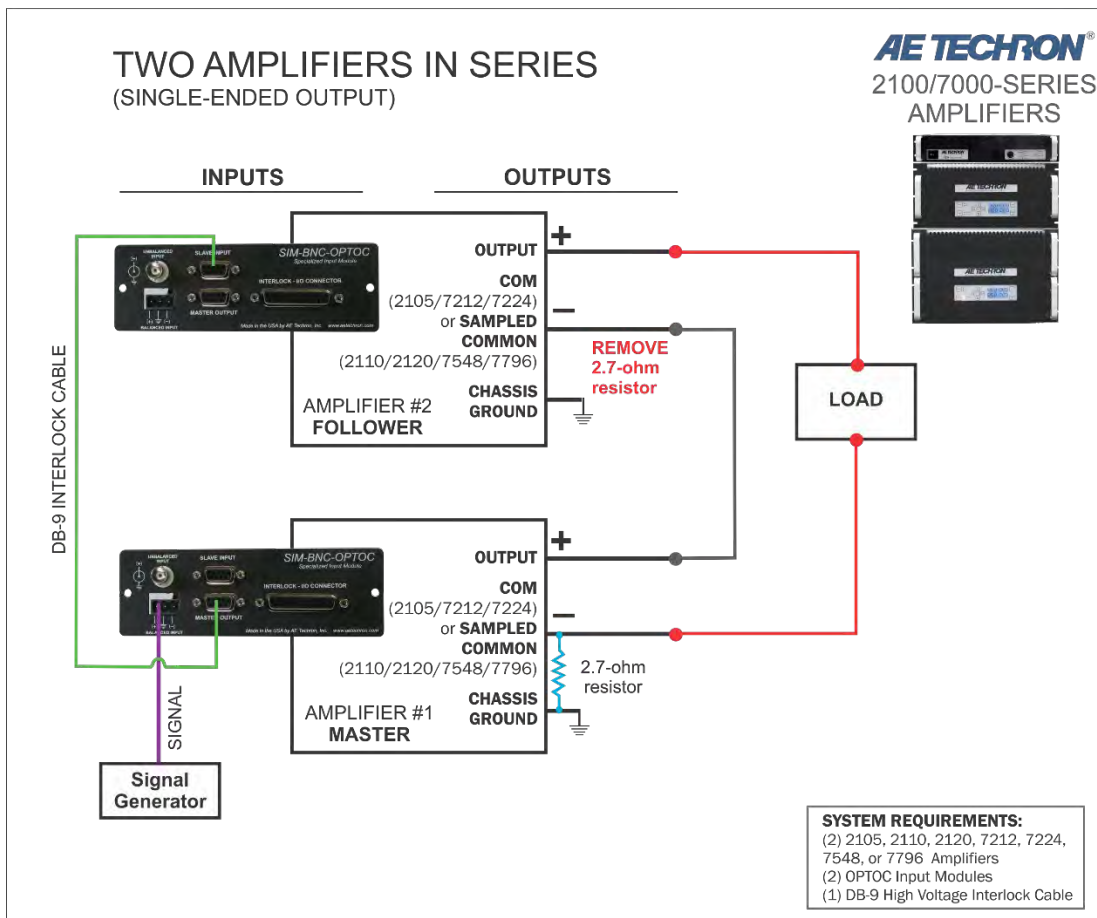

Figure 3.18 – Two Amplifiers in Series – Single-Ended Configuration
5. Check the completed system diagrams in **Figure 3.18 or 3.19** to verify proper system setup.